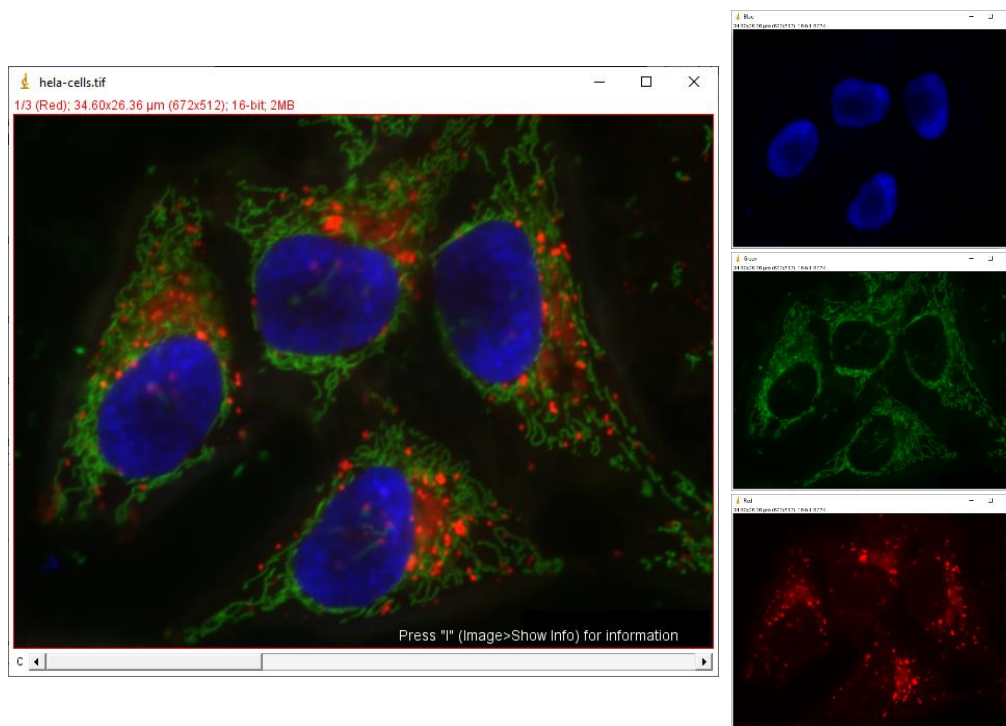

Figure 1 Three-channel fluorescence image of HeLa cells with blue nucleus, green mitochondria, and red lysosomes.
High-content screening is based on a cell-by-cell analysis of multi-channel images similar to the one shown in Fig. 1:
1. *CH1* images contain fluorescence-labeled nuclei. These are used to locate the cells. As Fig. 1 illustrates, in addition to being very bright, the labeled nuclei are relatively large and fairly circular in shape. These morphological parameters are used to distinguish them from other bright objects, e.g., fibers from wipes.